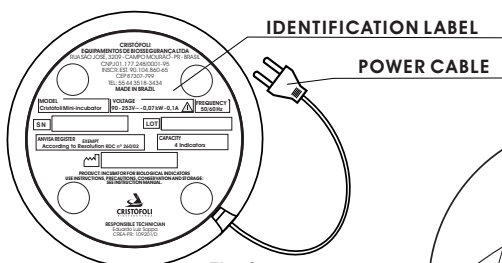

Fig. 3
- 1► The voltage of the Cristófoli Mini-incubator is from 90V to 253V (automatic voltage selection), as informed in the identification label located under the device (Fig. 3). Make sure the wiring voltage where it will be installed is in accordance with the values marked in the field **Voltage** of the Identification Label. **ATTENTION! Non compliance with this requirement may damage your mini-incubator. Cristófoli is not responsible for damages caused by inappropriate installations and/or voltage.**
- **POWER CABLE** - Used to connect the equipment to the electric outlet (Fig. 3).
- **IDENTIFICATION LABEL** - Affixed under the device, its function is to identify the mini-incubator technical data (Fig. 3).